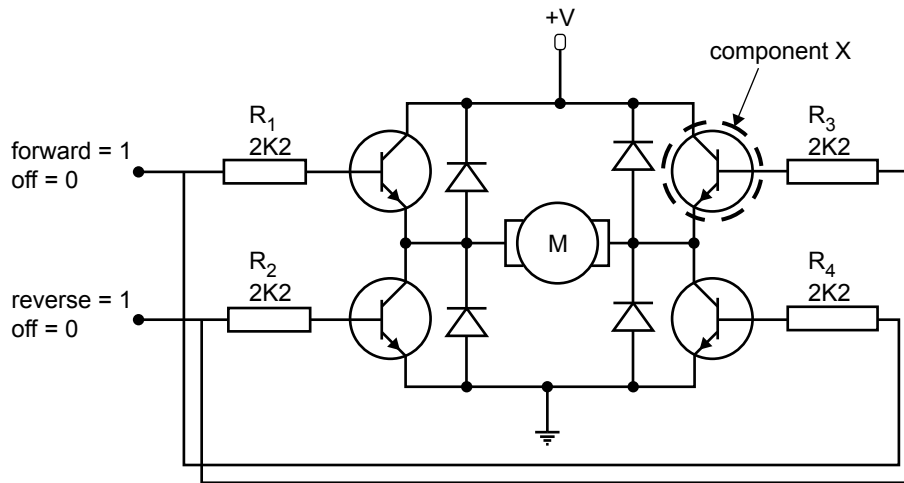

Figure 1
- a. Identify component X, which is labelled in Figure 1 above. 1 mark
Carmen decides to design her own circuit board for the circuit shown in Figure 1. A partially complete circuit board is shown below.